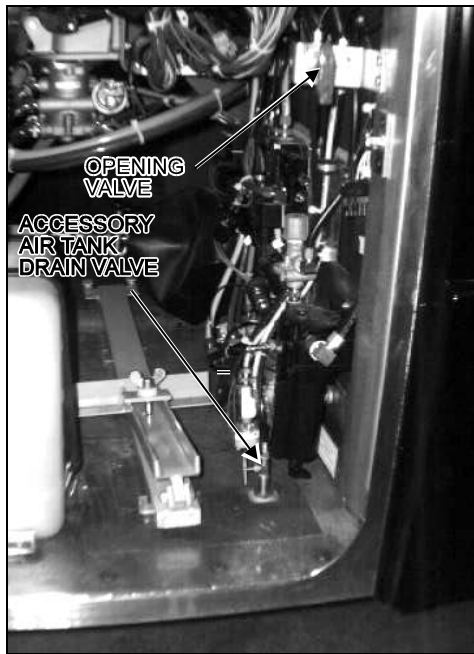

FIGURE 1: FRONT SERVICE COMPARTMENT
1. Drain accessory air tank with the drain valve (this supplies the solenoid valve to be replaced). This valve is located in the front service compartment (figure 1). Close the valve. The reservoir will fill up automatically with engine running.